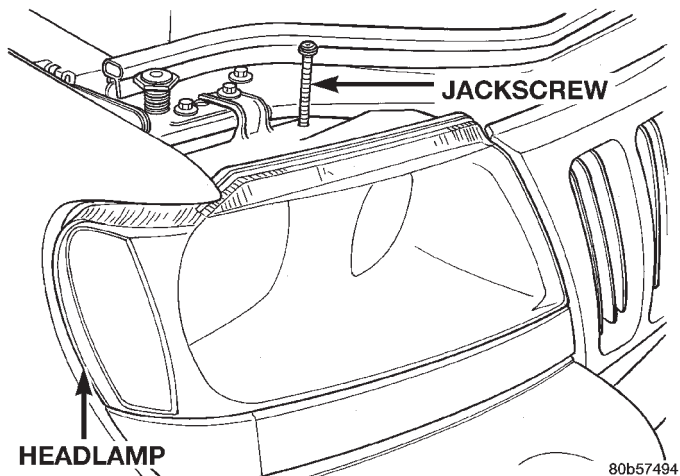

Fig. 5 Headlamp Retaining Fastener
(3) Position the headlamp and install the retaining jackscrew (Fig. 5).